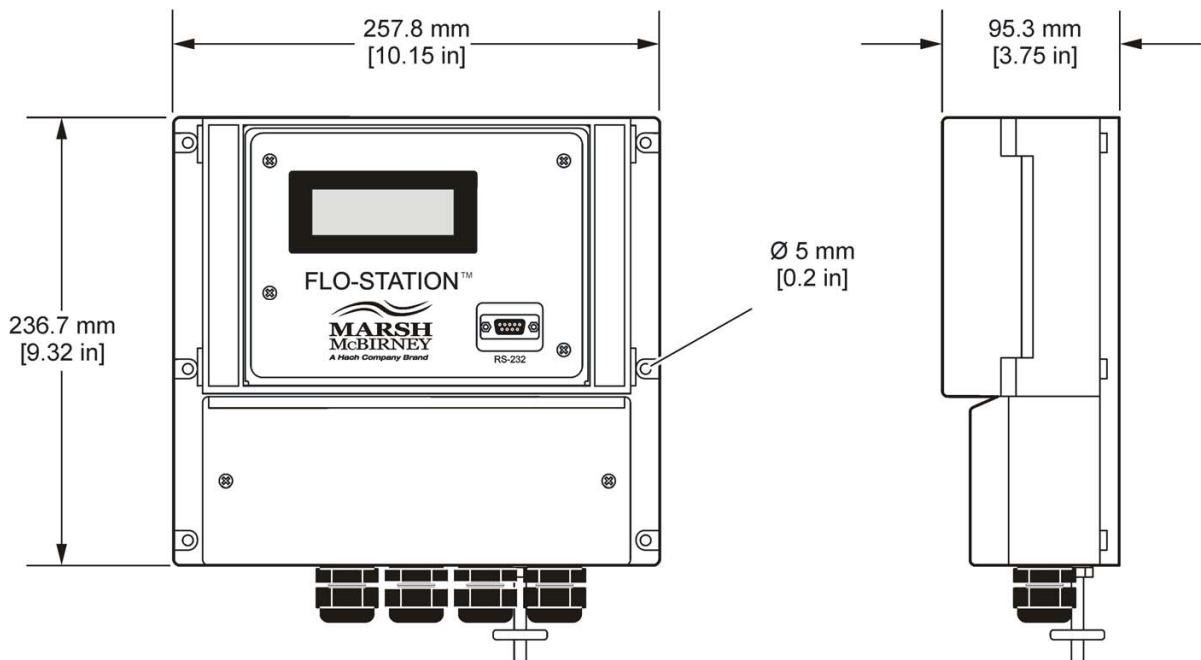

Figure 3 Instrument dimensions
1. Position the unit on the mounting surface. Make sure the unit is approximately eye-level with the cable entry side facing downward (Figure 3).